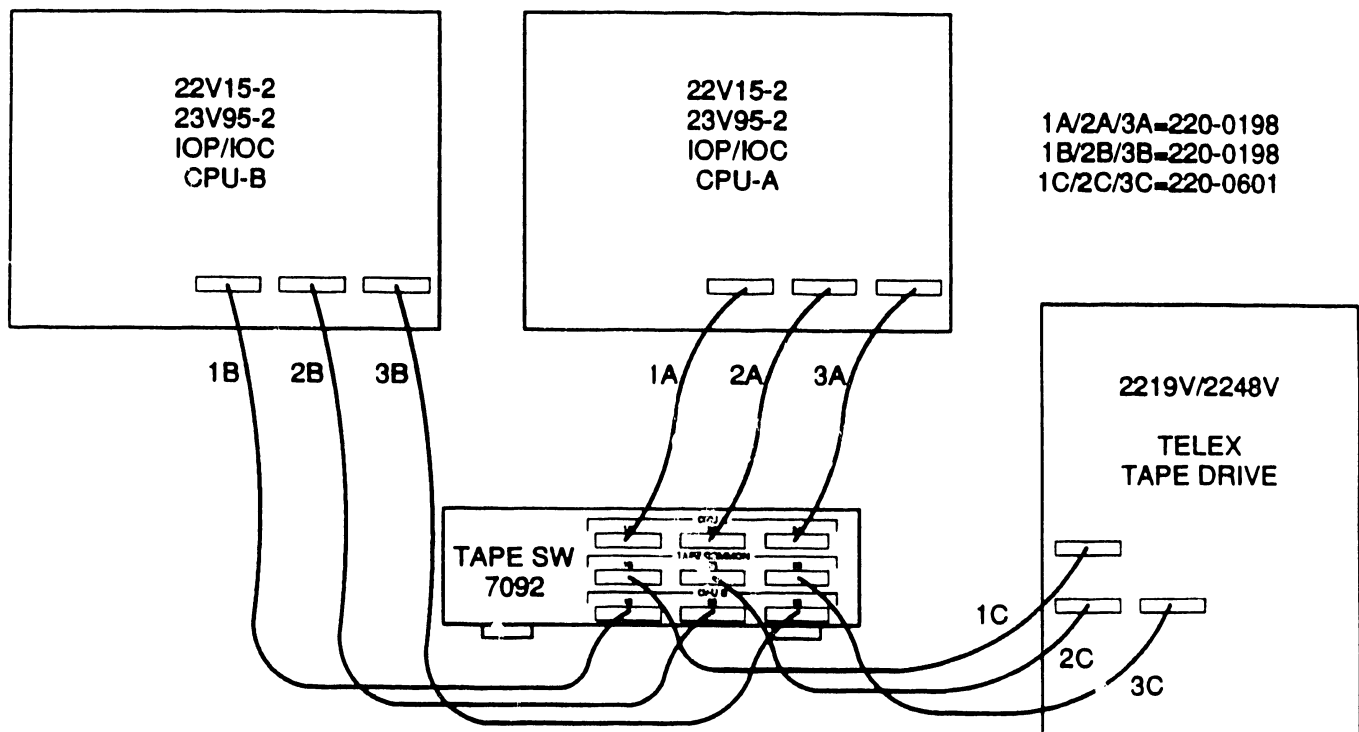

Figure 8. Typical Model 2219V/2248V Tape Drive Configuration
3. Disconnect three cables that are attached to existing VS system and 2219V/2248V Telex drive. Connect three cables (WLI 220-0601) to three I/O connectors on the 2219V Telex drive. (Figure 8)
4. Plug free ends of three cables in Step 3 into corresponding connectors 1C, 2C, and 3C on the rear panel of the Model 7092 Tape Drive Switch unit. (Figure 8)
5. Connect three cables (WLI 220-0198) from VS CPU A I/O tape panel to corresponding connectors 1A, 2A, and 3A on the rear panel of the Model 7092 Tape Drive Switch unit. (Figure 8)
6. Connect three cables (WLI 220-0198) from VS CPU B I/O tape panel to corresponding connectors 1B, 2B, and 3B on the rear panel of the Model 7092 Tape Drive Switch unit. (Figure 8)